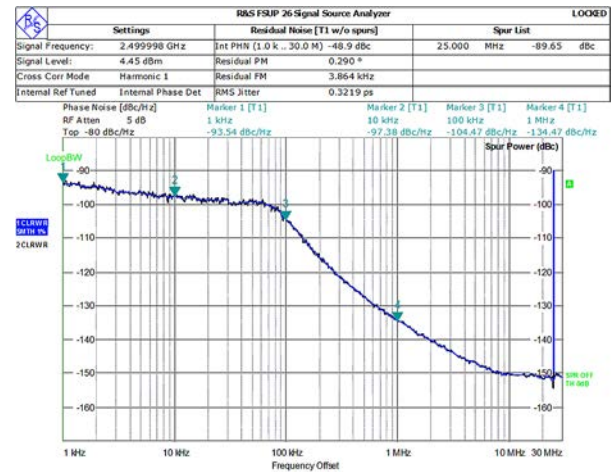

Figure 20. Spectrum Analyzer Display
8. Measure the output spectrum. Figure 20 shows a phase noise plot at 2.5 GHz output.